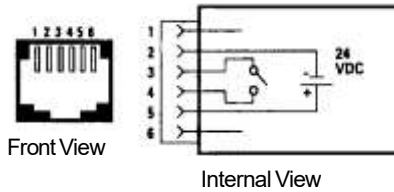

Fig. 6
Step 5: Determine the line button number of the "make busy" feature (see Fig. 6). For example, if the "make busy" feature is located on line button 4, then press on the dial pad of the MBS.